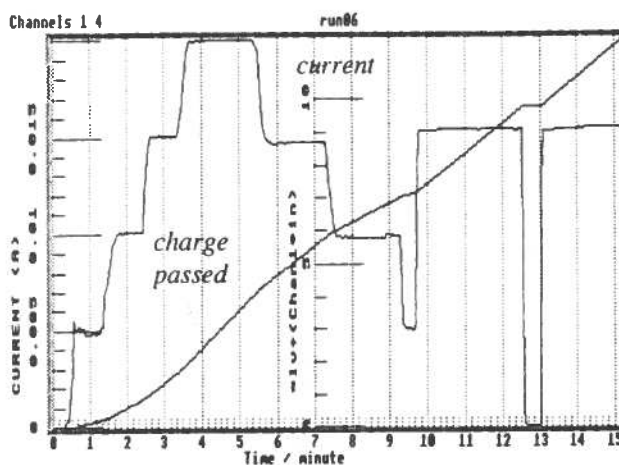
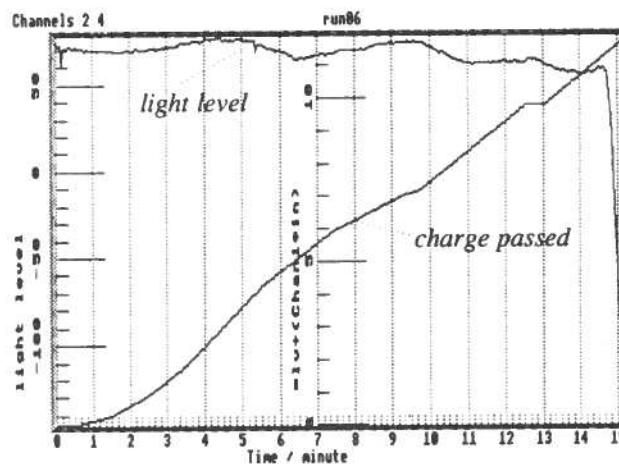
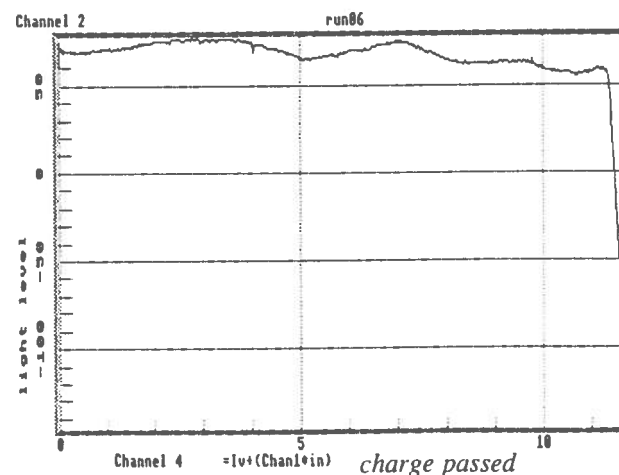

Fig.16 Current & charge vs. time
Fig.17 Charge & light vs. time
Fig.18 Charge vs. light level
Here we use a variable d.c. power supply with a large value smoothing capacitor (2200  $\mu$ F) connected across the output. Because we can use the *Mathematical Utilities* of the *Datadisc Plus* software to work out the area ( $I*t$ ) under the curve, the current can be allowed to vary during the course of the experiment. This can be by design or just as things happen. In the example shown (Fig.16) the current was varied greatly between 0 and 20 mA by the operator. If high currents are used, an increase in the amount of wispy blue colour can be seen around the platinum electrode. Remember the teaching point is that it is the charge transferred that is ultimately important and not the time it takes.
3. derive charge passed. Plot both current and charge passed vs. time (Fig.16)
4. plot charge passed and light level vs. time (Fig.17)
5. X-Y plot charge passed vs. light level (Fig.18)
Fig.16 shows a current vs. time plot where the current was deliberately varied between 0 and 20 mA over the course of the experiment in order to show how the integration could cope with a non-constant current.
where  $x$  represents the variable of the channel holding the current data,  $in$  is the time interval between data points and  $lv$  is the last expression value computed. In other words the cumulative total of each current \* time interval calculation for each data point is plotted vs. time. The diagonal plot on Figures 16 and 17 represents the charge transferred (in coulombs) vs. time. Figure 17 also shows how the light level varied with time.
It can be clearly seen from Figure 17 that the charge transferred when the light level abruptly dropped was about 11 coulombs. To illustrate this even more clearly the *Display utilities* can produce an *X-Y plot* (Fig.18) of charge transferred vs. light level.